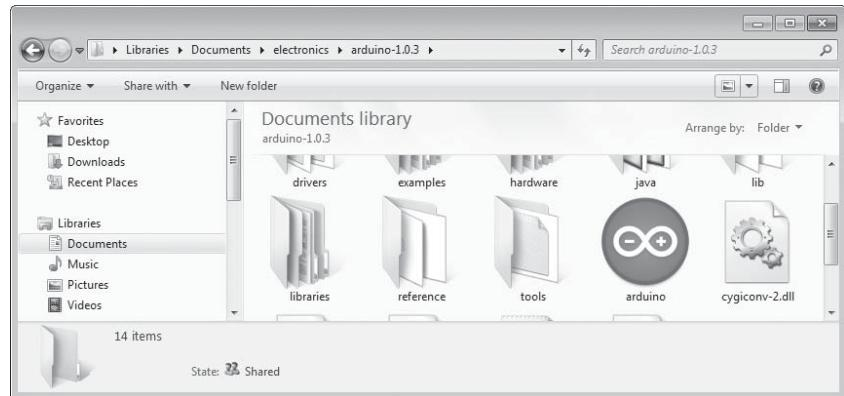

Figure 1-19: Your IDE folder with the Arduino application icon selected
4. Copy the folder named *arduino-0022* (or something similar) to the location where you store your applications. Once the copying is finished, locate the folder and open it to reveal the Arduino application icon, as shown in Figure 1-19. You may wish to copy the icon and place a shortcut on the desktop for easier access in the future.